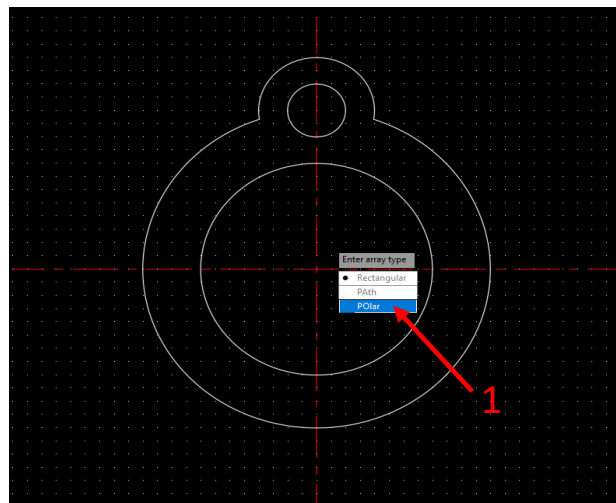

Fig 26
- xx. Then **enter** and click **polar (1)**. See Fig 26